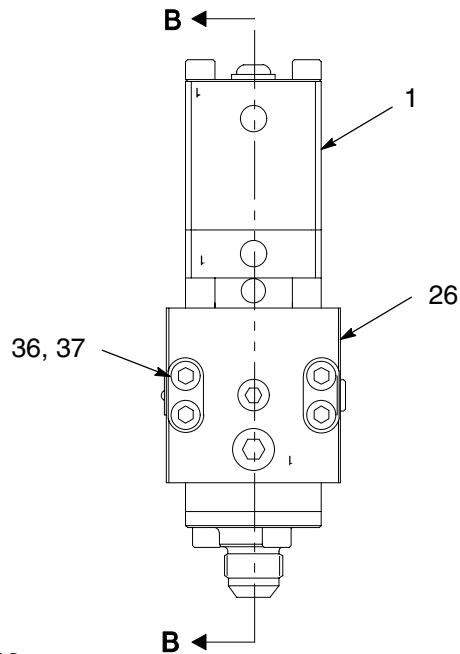

Fig. 10
1. Remove four socket head screws (36) and washers (37). See Fig. 10.